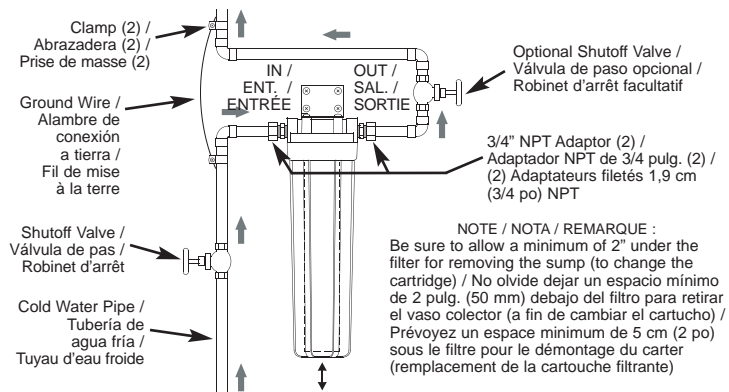
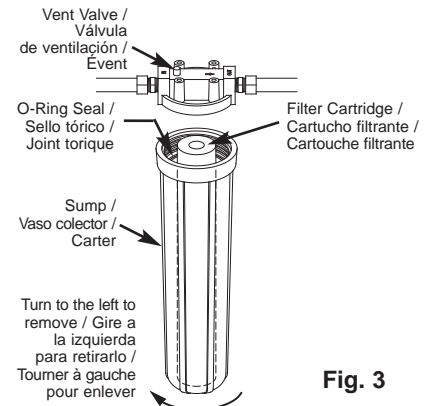

Fig. 1
Fig. 3
To filter all house water, install the filtration system on the main (COLD) supply water pipe near where it enters the house (See Figure 1).
3. Cut out a section of the COLD water supply pipe several inches long, as needed to install the filter as shown in Figure 1.
5. With the IN side of the water filter toward the incoming water, make connections, as shown in Figure 1. When tightening compression nuts, be sure to use a second wrench to hold the 3/4" NPT fitting while turning the nut.
The house cold water pipe is often used to ground electrical outlets in the home. Grounding protects you from electrical shock. Installing the water filter may have broken this ground. To restore, buy and install a #4 copper wire across the filter, tightly clamped at both ends, as shown in Figure 1.
1. Close the water supply shutoff valve to the filter (See Figure 1). To relieve pressure in the filter, press the vent valve on top of the filter head (See Figure 3) or open a cold water house faucet downstream of the filter.
2. Turn the sump to the left to remove from the head (See Figure 3). Be careful, as the sump is full of water. Do not lose the large o-ring seal.
8. Partially open a house faucet downstream of the filter housing. Then, slowly open the water supply shutoff valve (See Figure 1) and allow the filter housing to fill with water. While it is filling, press the filter vent valve to release air in the filter.
Pour filtrer l'eau de toute l'habitation, installez le système de filtration sur le tuyau principal d'arrivée d'eau FROIDE près de l'endroit où il entre dans la maison (voir figure 1).
3. Coupez une section du tuyau d'arrivée d'eau FROIDE sur plusieurs centimètres, assez pour installer le filtre tel qu'illustré à la figure 1.
1. Fermez d'abord l'arrivée d'eau du filtre (voir figure 1). Pour relâcher la pression à l'intérieur du filtre, appuyez sur l'évent situé sur le dessus de la tête du filtre (voir figure 3) ou ouvrez un robinet d'eau froide en aval du filtre.
2. Tournez le carter vers la gauche pour le séparer de la tête (voir figure 3). Prenez garde, car le carter est rempli d'eau. Ne dégagez pas le grand joint torique.